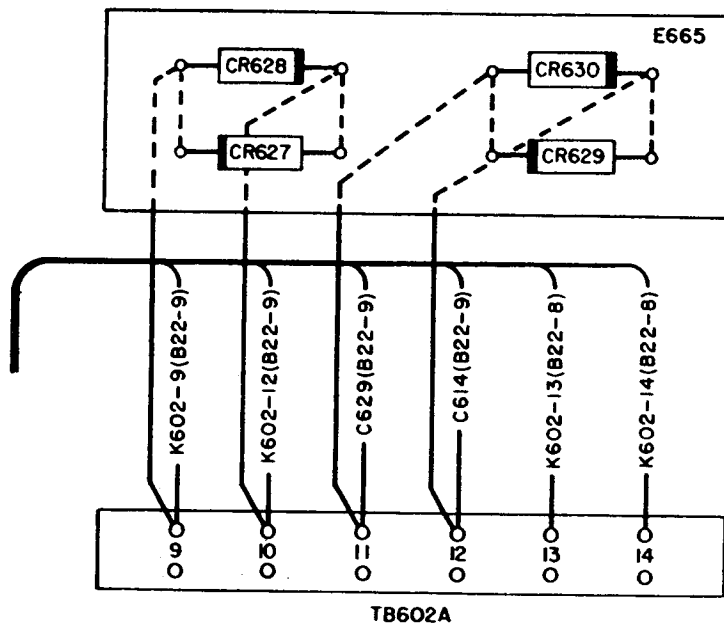

Figure 2. Correction on Figure 6-46A
2. On figure 6-46A, Electrical Frequency Control C-2861/WRT-1, Frequency Comparator, Wiring Diagram, Sets 142 and up, in the upper right hand section add the diode board E665 with diodes CR627, CR628, CR629, and CR630 as shown in figure 2 of this temporary correction.